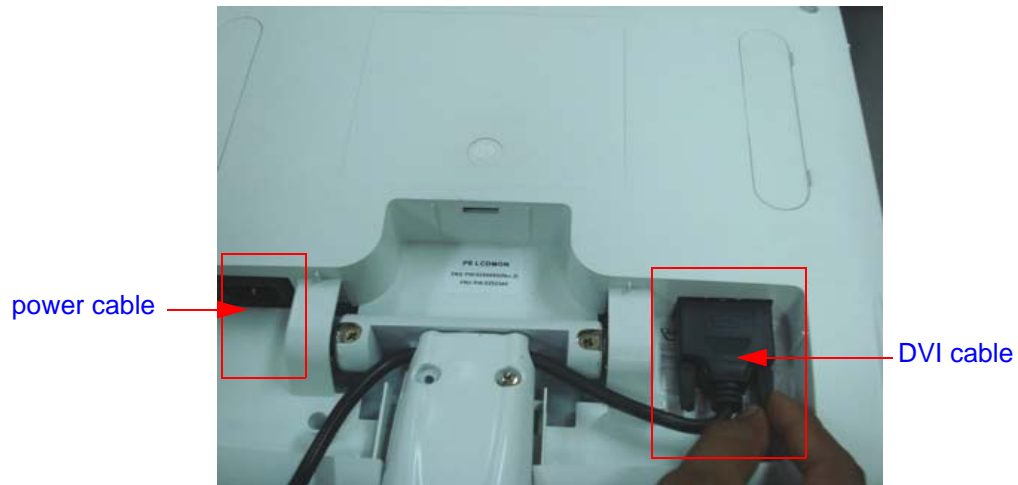

Figure 8-4 Remove Power cable & DVI cable
8) disconnect the power cable & DVI cable from the LCD monitor system. Refer Figure 8-4 on page 8-6